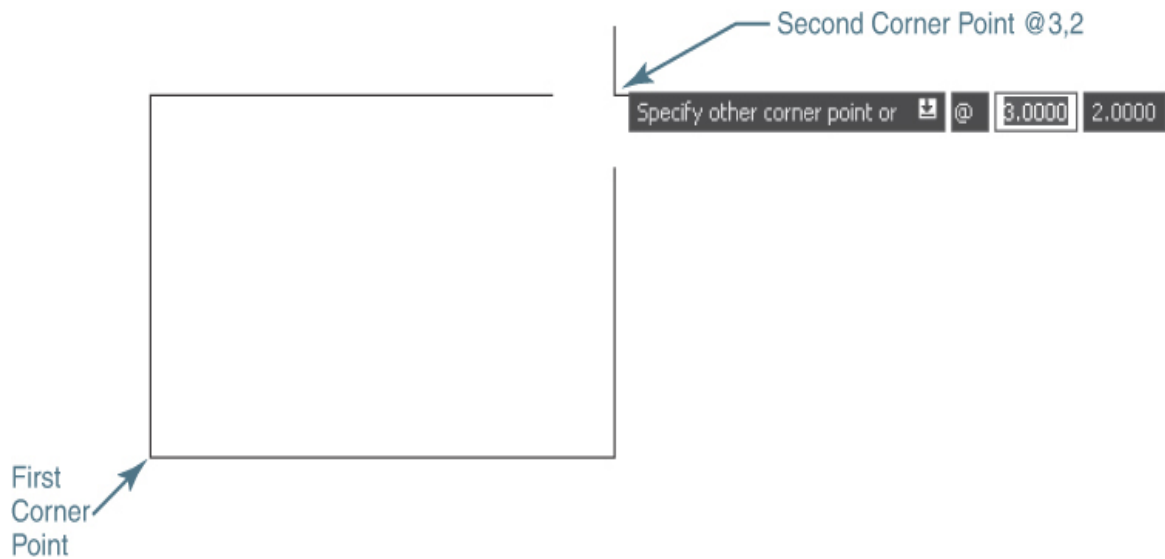

Figure 9-21
When you start the **RECTANG** command, AutoCAD prompts you to *Specify first corner point or ↓*. You can either type in a coordinate value or pick a point in your drawing. After you specify the first point, you can locate the other corner point as shown in Figure 9-21.
- 2 Create a 3.000" × 2.000" rectangle similar to the rectangle shown in Figure 9-21 using the **RECTANG** command and relative coordinate entry.